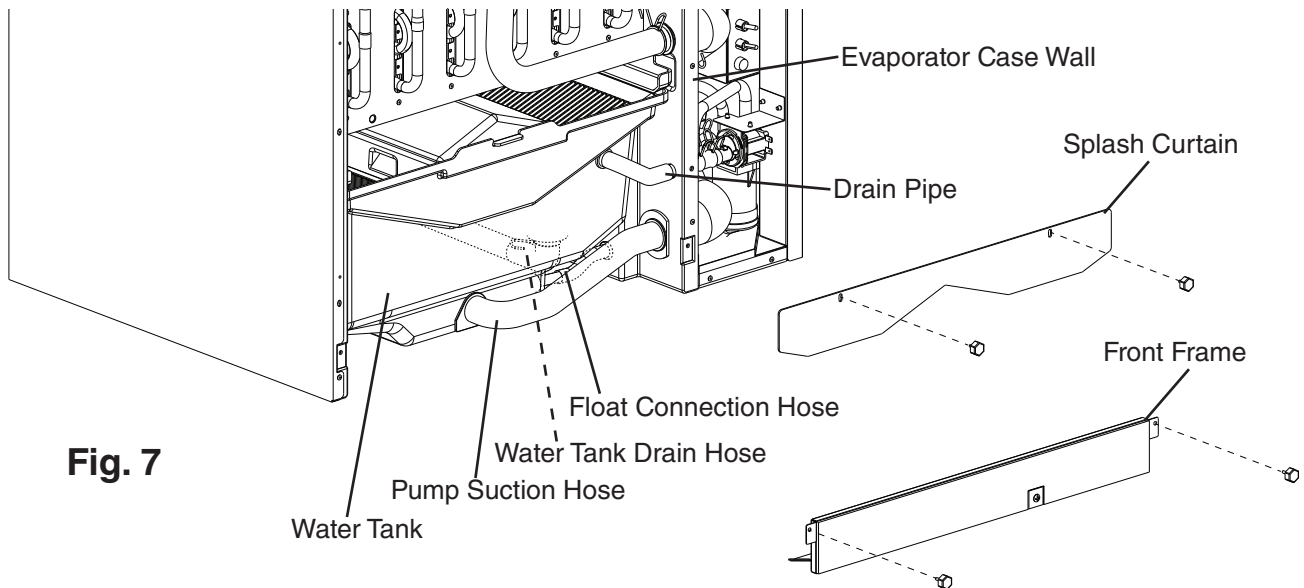

Fig. 7
- 1) Remove the front frame and splash curtain. See Fig. 7.